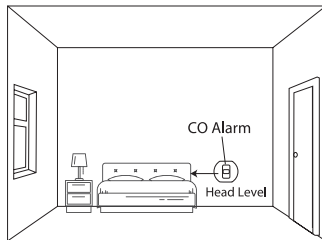

Figure 2: Installation in a bedroom or room without a fuel-burning appliance (installed at head level)
2. Installing the CO alarm in a bedroom or room without a fuel-burning appliance (see Figure 2):